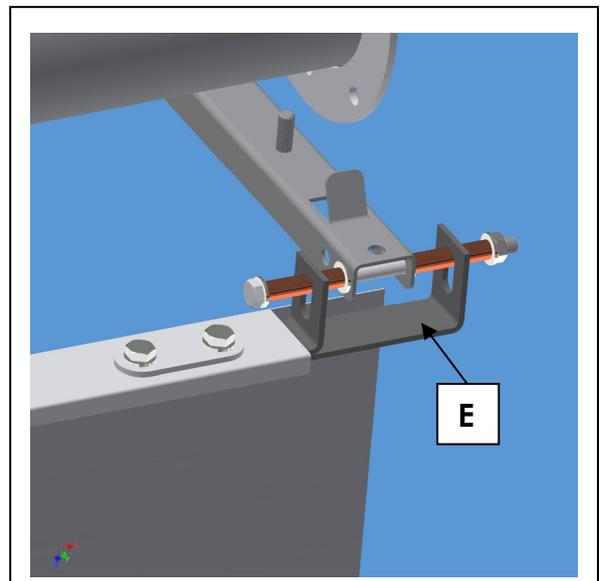

Fig. 57: Mounting of reflector elongation on first hanger with additional bracket
6. In case of one-sided load on bolts mount additional mounting bracket **E** [Fig. 57].